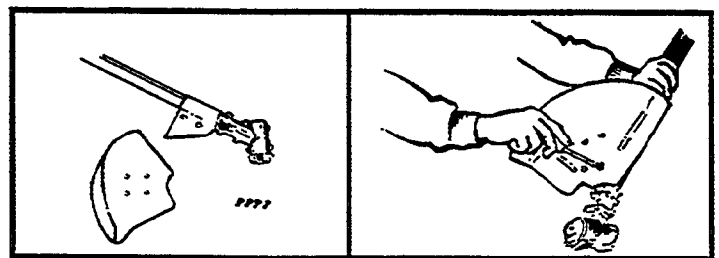

Figure 6
- Install the blade guard/head shield using the hardware supplied (Figure 6).